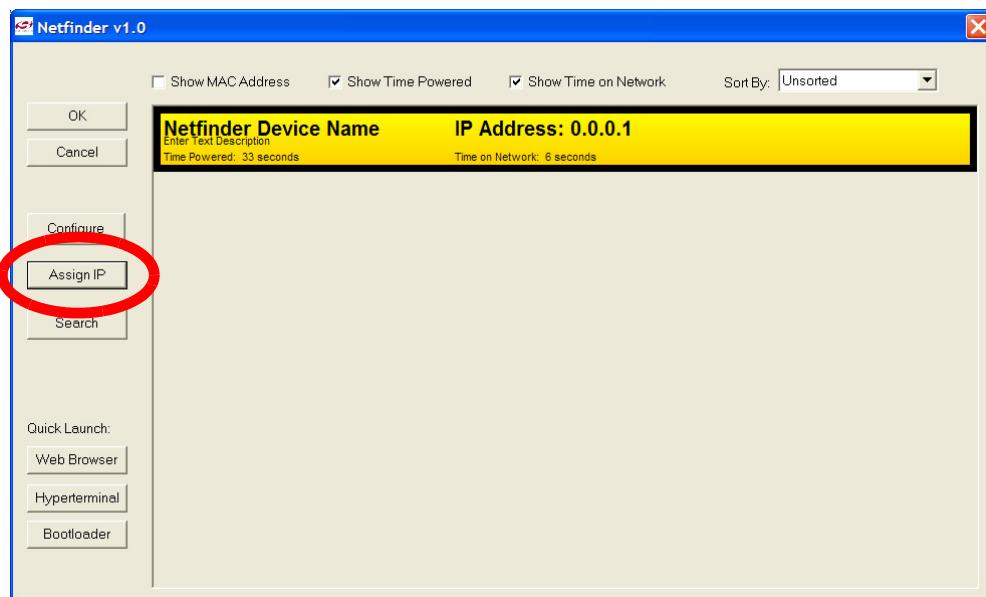

Figure 21. Static IP Address Mode
5. If the network does not have a DHCP server, then the embedded system will search for approximately 35 seconds before going into static IP address mode. After going into static IP address mode, Netfinder will display information about the device in a window with a yellow background. Select the device by **clicking inside the yellow area** and pressing the **Assign IP** button as shown in Figure 21.